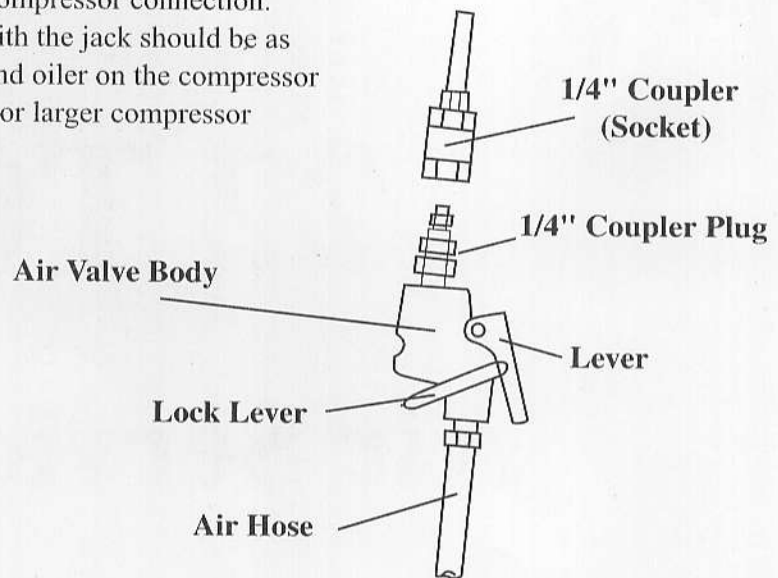

Figure 1
1. The jack comes fully assembled and easily connects to an air compressor. Figure 1 shows proper jack/air compressor connection. The air hose connecting the air compressor with the jack should be as short as possible. Installation of an air filter and oiler on the compressor end is recommended. Use of a 3 horsepower or larger compressor as recommended.